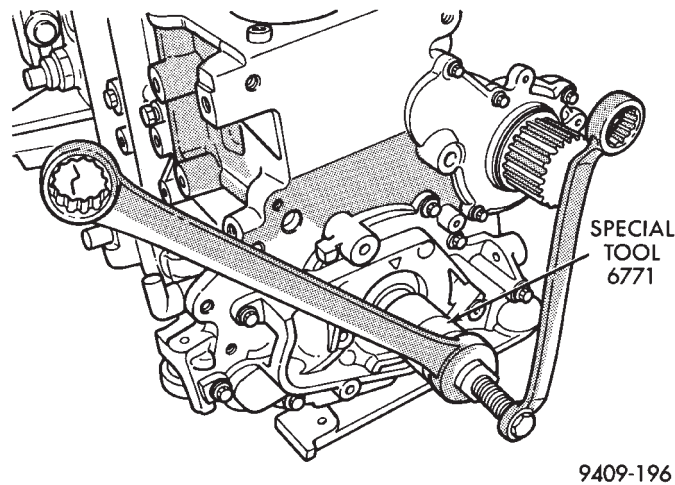

Fig. 93 Front Crankshaft Oil Seal—Removal
(4) Using Tool 6771 to remove front crankshaft oil seal (Fig. 93). Do not damage the seal contact area on the crankshaft.